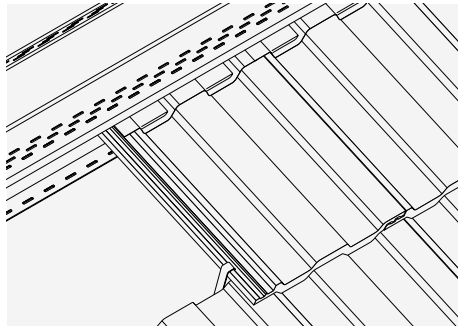

Fig. 5 - Clip top course interlocking tiles
- 8 Insert tile with filler unit into batten section by lifting top flange slightly until nibs engage over upstand and tile is held securely. (The ridge filler unit for Modern has raised lugs which fit beneath circular beads on batten sections) (Fig. 5).
- 9 Ensure each tile is mechanically fixed by using a standard tile clip located over side lock and nailed to top edge of second course tiling batten (Fig. 5).